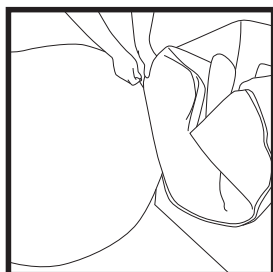

Fig. 6
11. Attach the base to the pillar-tube with the zipper (Fig.6).